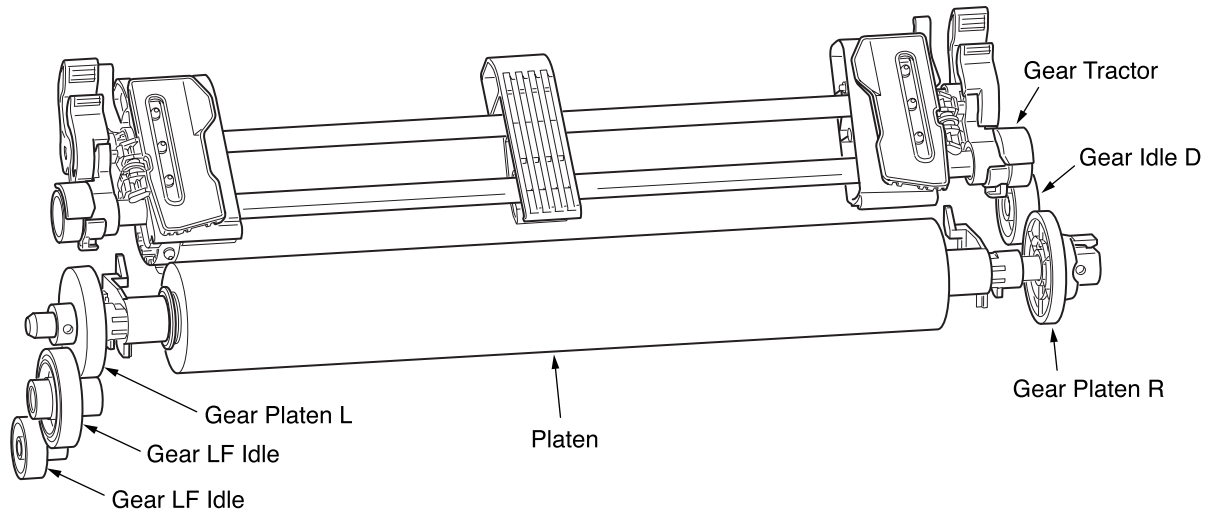

Figure 2-12
(6) Pull tractor mechanism (See Figure 2-12.)